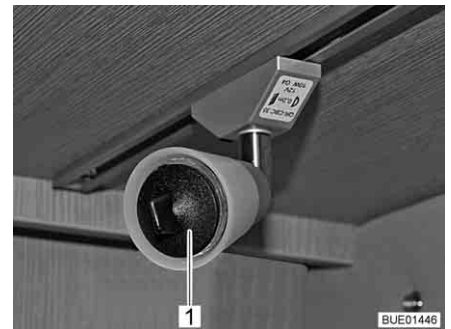

Fig. 274 Suction cup for replacing the lamp
- ▷ A suction cup (Fig. 274,1) is included to help with changing the lamp.